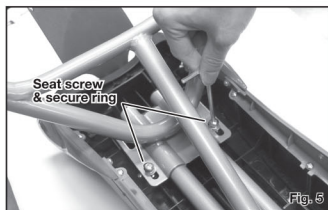

Fig.5
6. Attach the seat by inserting the 3 seat screws with the Secure rings⑬ through the seat position slots on the frame and tightening into the seat assembly points using the Allen key⑨. (See Fig. 5)